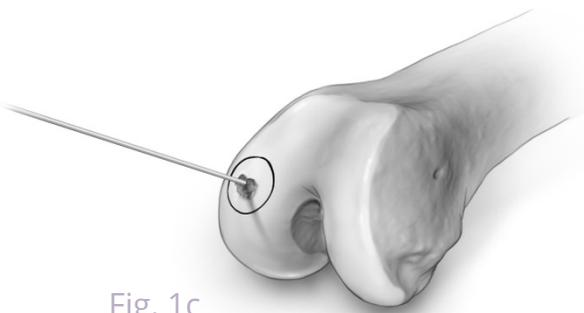

Fig. 1c
**Step 3:** Remove the cutter/guide, leaving the pin inserted. The pin should be perpendicular to the condylar surface (Fig. 1c).